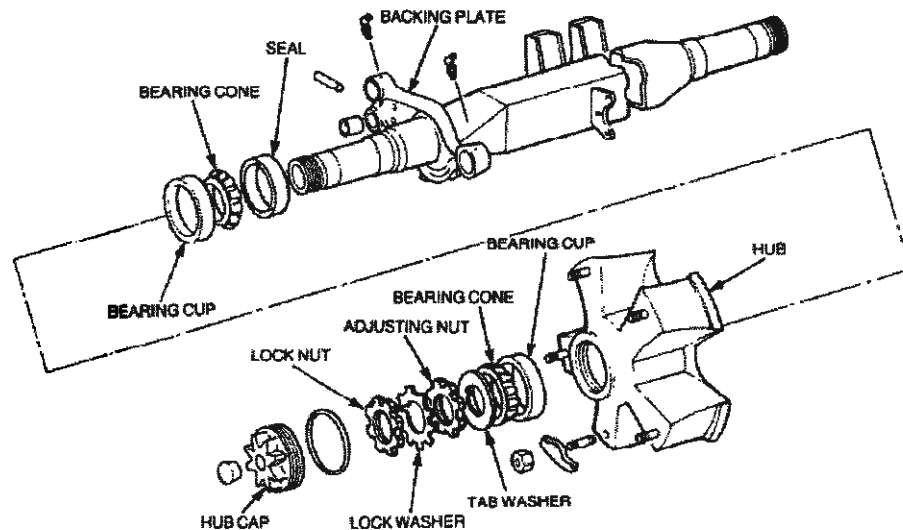

Figure 17 Axle Assembly - Exploded View
- e. Using special tool JLA13943 remove the hub cap and O ring (Figure 17).